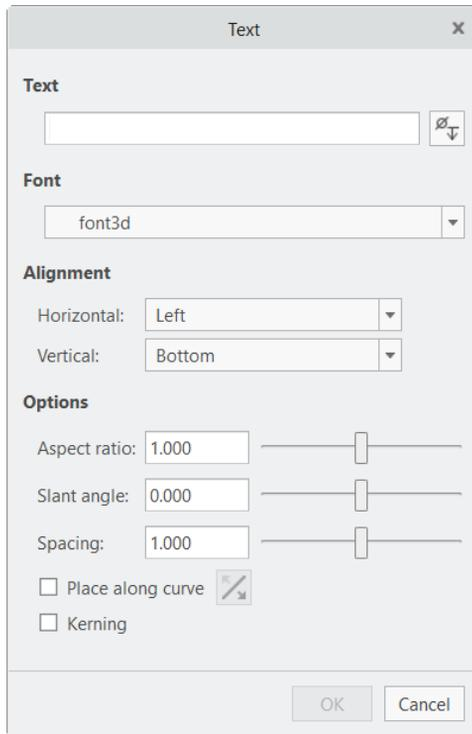

Figure 3-16 The Text dialog box
3. Specify the second point on the screen by left-clicking; the **Text** dialog box will be displayed, as shown in Figure 3-16 and a construction line will be drawn having height equal to the distance between the two points. The height and orientation of the text depends on the height and angle of the construction line. If the construction line is drawn at an angle, then the text will be written at that angle. By default, the dimension of the construction line is a strong dimension.